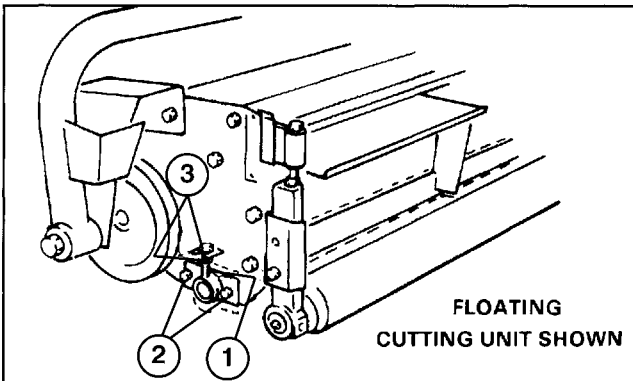

Figure 11
4. Loosen (2) carriage bolts on bedbar adjuster (Fig. 11).
5. Adjust nuts to move bedbar adjuster up or down until paper is pinched along entire bedknife surface, when bedknife adjustment knob is adjusted to no more than two clicks beyond first contact of reel bedknife (Fig. 11).